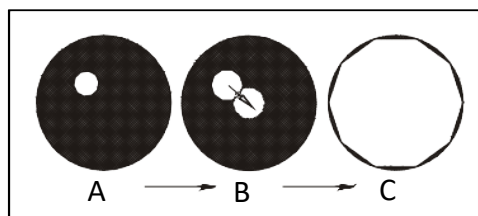

Fig. 20
Adjust the center adjustment screws ④ and move the bright region to the center of the field of view (Fig. 20).
Adjusting the Field Iris Diaphragm – (Fig. 20, C)